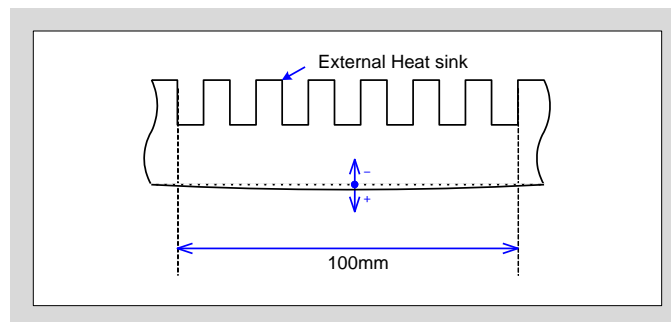

Fig. 6-2 The measurement point of heat sink flatness
- As shown in Fig. 6-2, the heat sink flatness should be $0\mu\text{m}/100\text{mm}$ to $+100\mu\text{m}/100\text{mm}$, and the surface roughness (R_z) should be less than $10\mu\text{m}$.